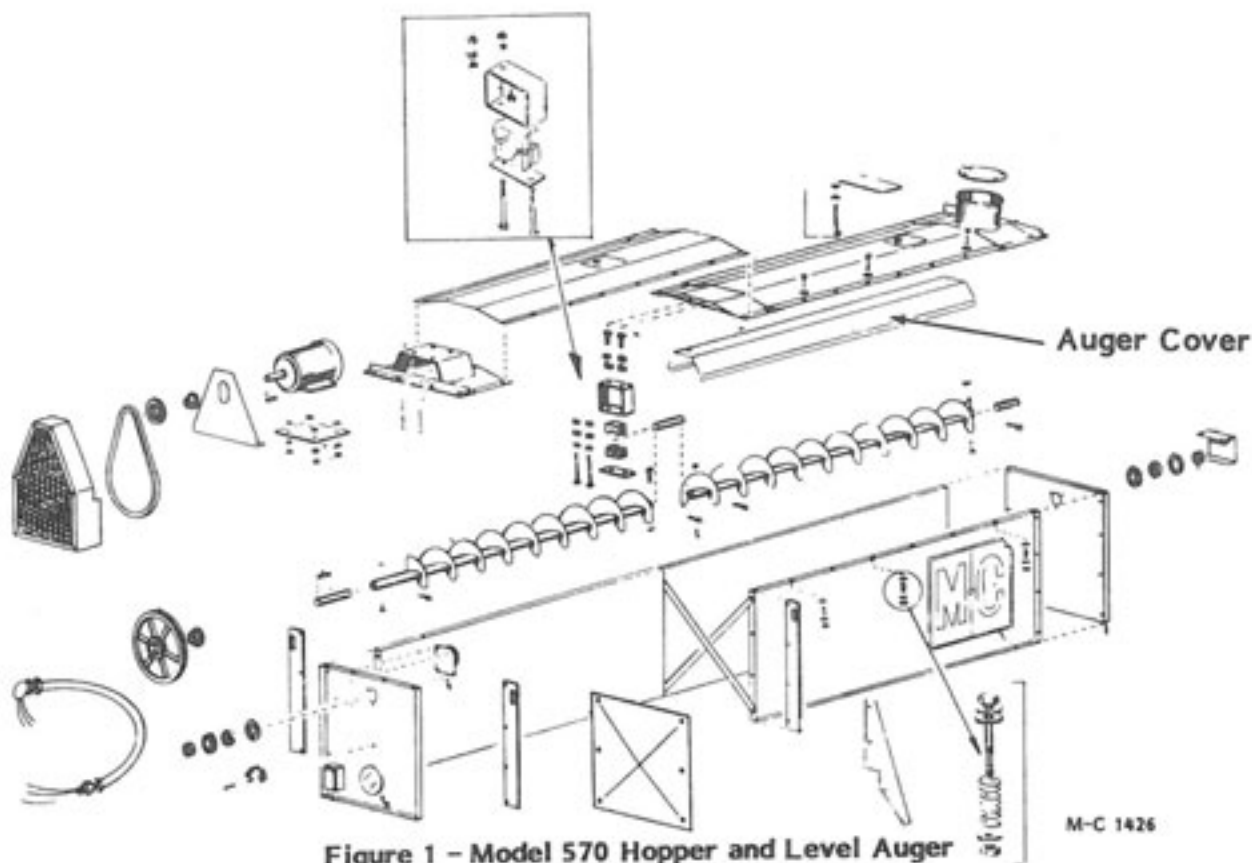

Figure 1 - Model 570 Hopper and Level Auger
Hopper and Level Auger (See Figure 1)
12. Install the hopper covers. The front and rear covers are 76" long on the Model 570. Secure the covers to the left side with $\frac{1}{2}$ -20 x 2" capscrews, flatwashers, springs and two-way locknuts as shown in Figure 1. Use the end holes and two middle holes only. Bolt the right side with $\frac{3}{8}$ -16 x $\frac{3}{4}$ " capscrews, flatwashers and flanged locknuts.